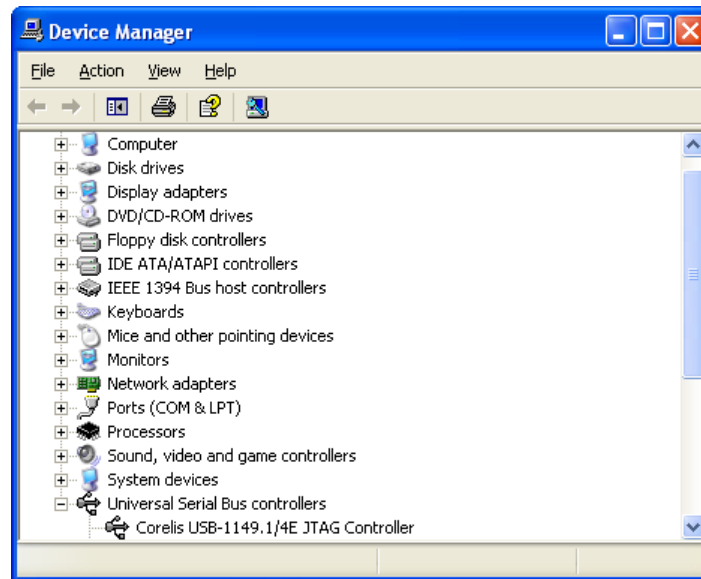

Figure 2-5. Windows Device Manager (WinXP)
9. The installation of the device drivers is now completed. Verify that the USB-1149.1/4E was correctly installed by checking for its entry in the **Windows Device Manager**. To run the Device Manager, right mouse click on the **My Computer** icon and then select **Properties**. Choose the **Hardware** tab and click on the **Device Manager** button. Corelis **USB-1149.1/4E JTAG Controller** should be listed in the **Universal Serial Bus controller** section as shown in **Figure 2-5**.